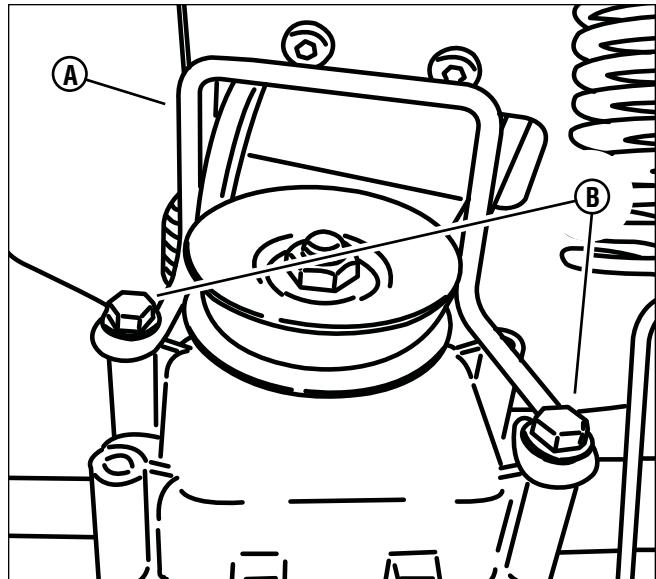

Figure 22: Removing the belt guide
- a. Remove the hardware **(B, Figure 22)** securing the belt guide **(A)** to the transmission assembly. Remove the belt guide.